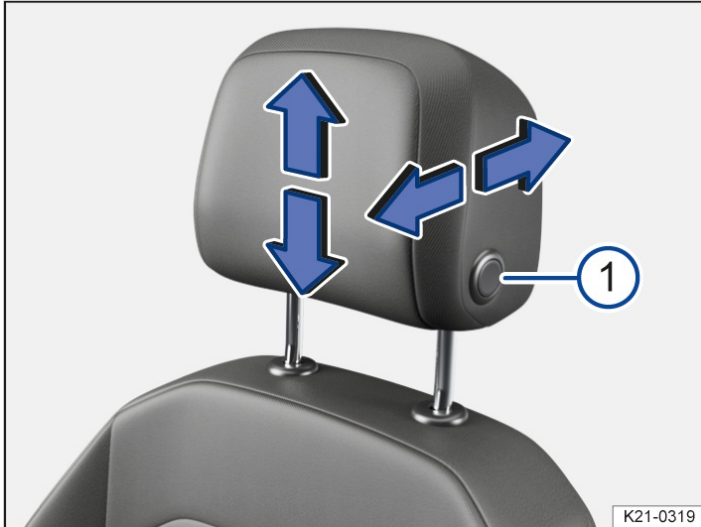

Fig. 4 General example: adjusting the front head restraint with forward/backward adjustment.
1. Push the head restraint forward in the direction of the arrow or, keeping the button → *fig. 4* ¹ pressed, push the head restraint backward.